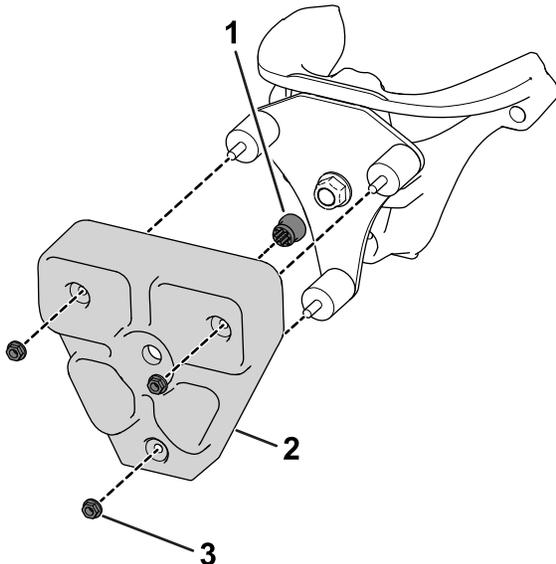

Figure 6
- Insert a grommet into the TMD weight (Figure 6).
- Use 3 rubber damper mounts and 3 nuts (5/16 inch) to secure the TMD weight to the mount plate (Figure 6).